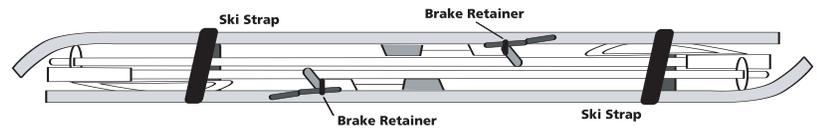

Fig. 5
1. Place one set of skis tip to tail, bindings facing each other on the floor. Use two of the \*rubber brake retainers to retract brakes. Secure skis and poles in this position using two of the \*nylon ski straps. (Fig. 5)